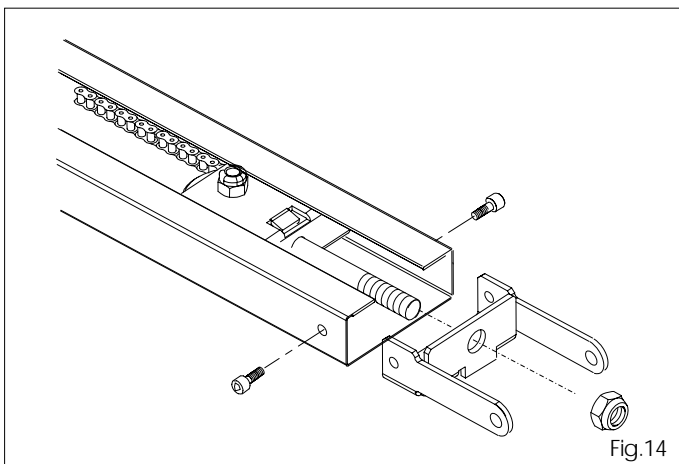

Fig.14
5.10 Fit the flange into the sliding guide, securing it with the two supplied M5 Allen screws (fig.14), and apply tension to the chain with the nut (fig.14).